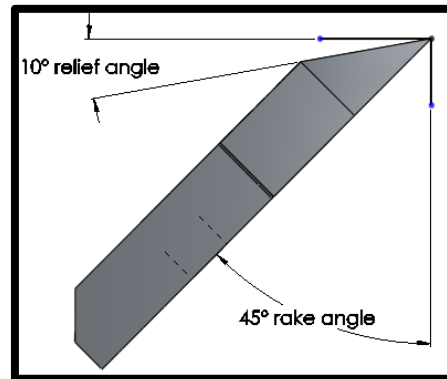

Figure 11: Rake and Relief Angles
- 8.2** The cutting edge of the cutter is made up of two intersecting angles. The rake angle (Figure 11) is 45° . The relief angle (Figure 11) is 10° . When sharpening the cutters, care should be taken to avoid changing either of these angles, particularly the relief angle. Changing the relief angle will adversely affect the penetration rate of the drill.
- 11.1.5.1 If there is noticeable scratching on the relief face (Figure 11) of the cutter, this means that there is something hard in the bottom of the hole; likely a rock or a small screw/washer. If something cannot be recovered (Section 11.3.1) from the borehole, this hole will need to be abandoned because every subsequent set of cutters used in it will be quickly destroyed.